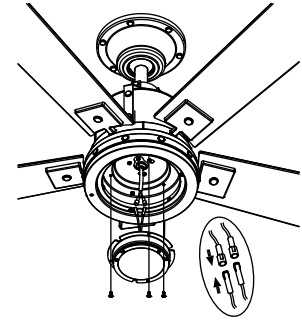

Fig. 20
Step 1. Hold the light kit close to the switch housing and connect the WHITE wires from the light kit and fan by pushing the connectors together. Follow the same procedure with the BLACK wires. (Fig. 20)
Step 2. Tuck the connections neatly into the light kit. Align three round holes on the light kit and switch housing. Securely tighten with 2 screws found in light kit hardware pack.(Fig.20)